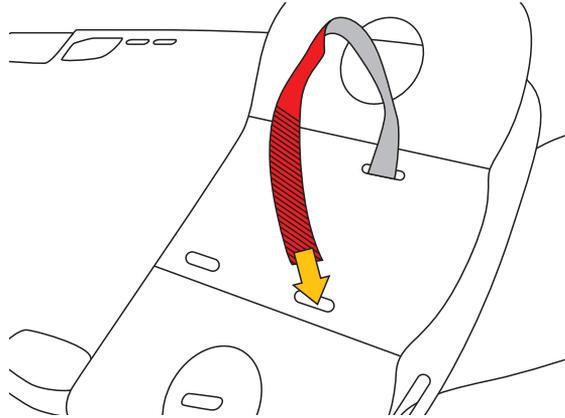

Fig.4
a) Insert the Velcro straps into the slots of the head immobiliser and spinal board (Fig. 4).